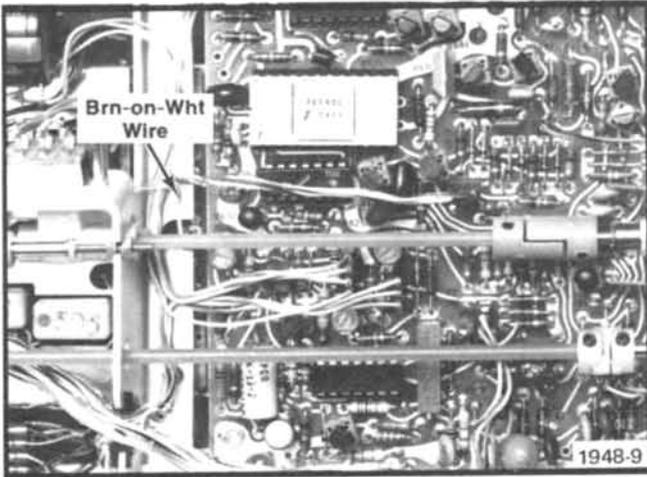

Fig. 5-6. Partial view of Output board showing the V_c input wire and the V_c output pin connector location.
- e. Disconnect the 7A13 brown-on-white wire located on the Output board (see Fig. 5-6). This wire disconnects the V_c supply located on the Output board from the V_c input circuit on the Attenuator board but does not disconnect the V_c supply from the V_c OUT 0-10 V jack.